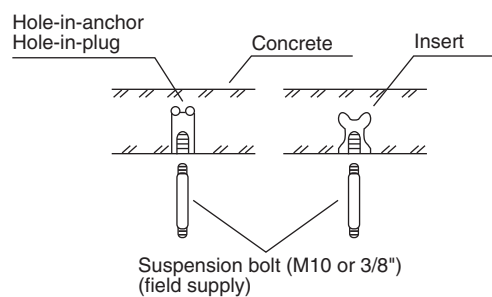
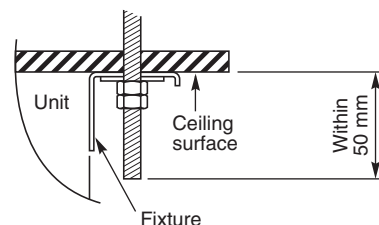

Fig. 3-6
Fig. 3-8
- (2) Drill holes at the 4 points indicated on the full-scale diagram.
- (3) Depending on the ceiling type:
- a) Insert suspension bolts (Fig. 3-6).
- (4) Screw in the suspension bolts, allowing them to protrude from the ceiling (Figs. 3-6 and 3-7). The distance of each exposed bolt must be of equal length within 50 mm. (Fig. 3-8)